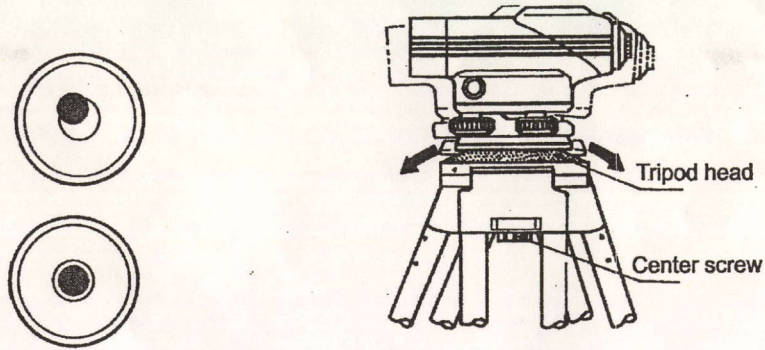

Fig.4
- 3.4. If using a spherical or dome head tripod, loosen the center screw and hold the base plate. Let the level slide on the head of the tripod and get the bubble in the center. (See Fig.4)